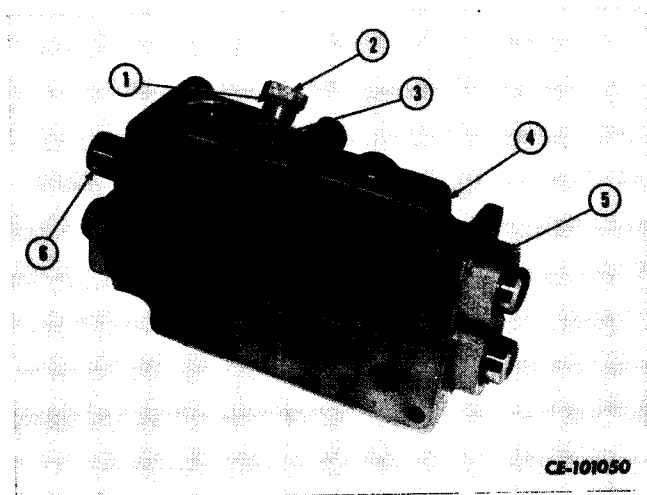

Figure 4-52
Remove plug (2, Fig. 4-52), spring (3) and detent ball from valve (4). Remove and discard "O" ring (1). Remove end caps (5) from ends of top spool (6).
Remove neutral safety switch and detent ball from port just under plug (2, Fig. 4-52).
Insert detent ball and spring (3, Fig. 4-52) into valve (4). Insert detent ball and neutral safety switch into port below plug (2, Fig. 4-52). Install new "O" ring (1), lubricated with clean transmission fluid, on plug (2) and secure plug in valve body.